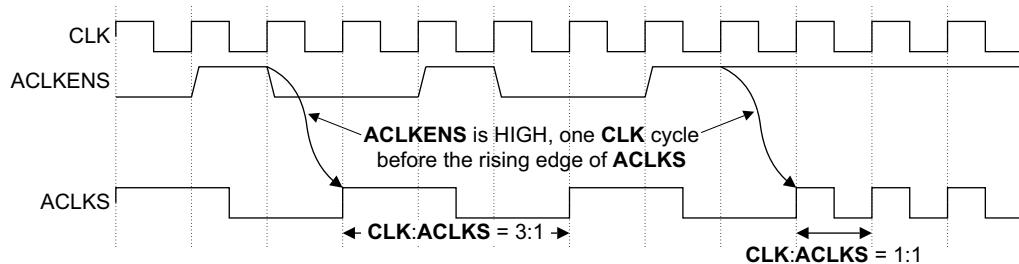

Figure 2-4 ACLKENS with CLK:ACLKS ratio changing from 3:1 to 1:1
Figure 2-4 shows a timing example of **ACLKENS** that changes the **CLK** to **ACLKS** frequency ratio from 3:1 to 1:1.
- Figure 2-4 shows the timing relationship between the ACP clock, **ACLKS** and **ACLKENS**, where **ACLKENS** asserts one **CLK** cycle before the rising edge of **ACLKS**. It is important that the relationship between **ACLKS** and **ACLKENS** is maintained.